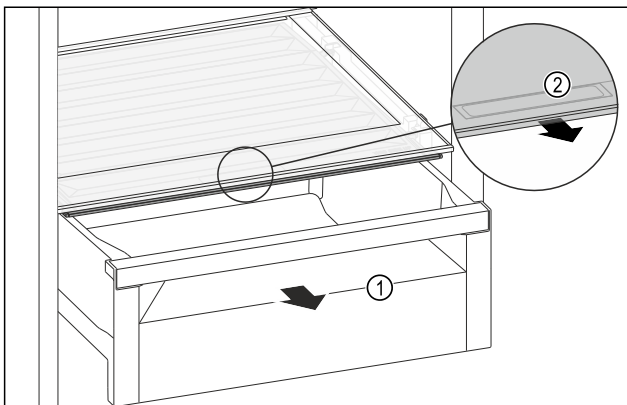

Fig. 151
- ▶ Pull out the drawer Fig. 151 (1).
- ▶ Grasp the recessed grip Fig. 151 (2) on the compartment lid and pull the compartment lid forwards at the same time.